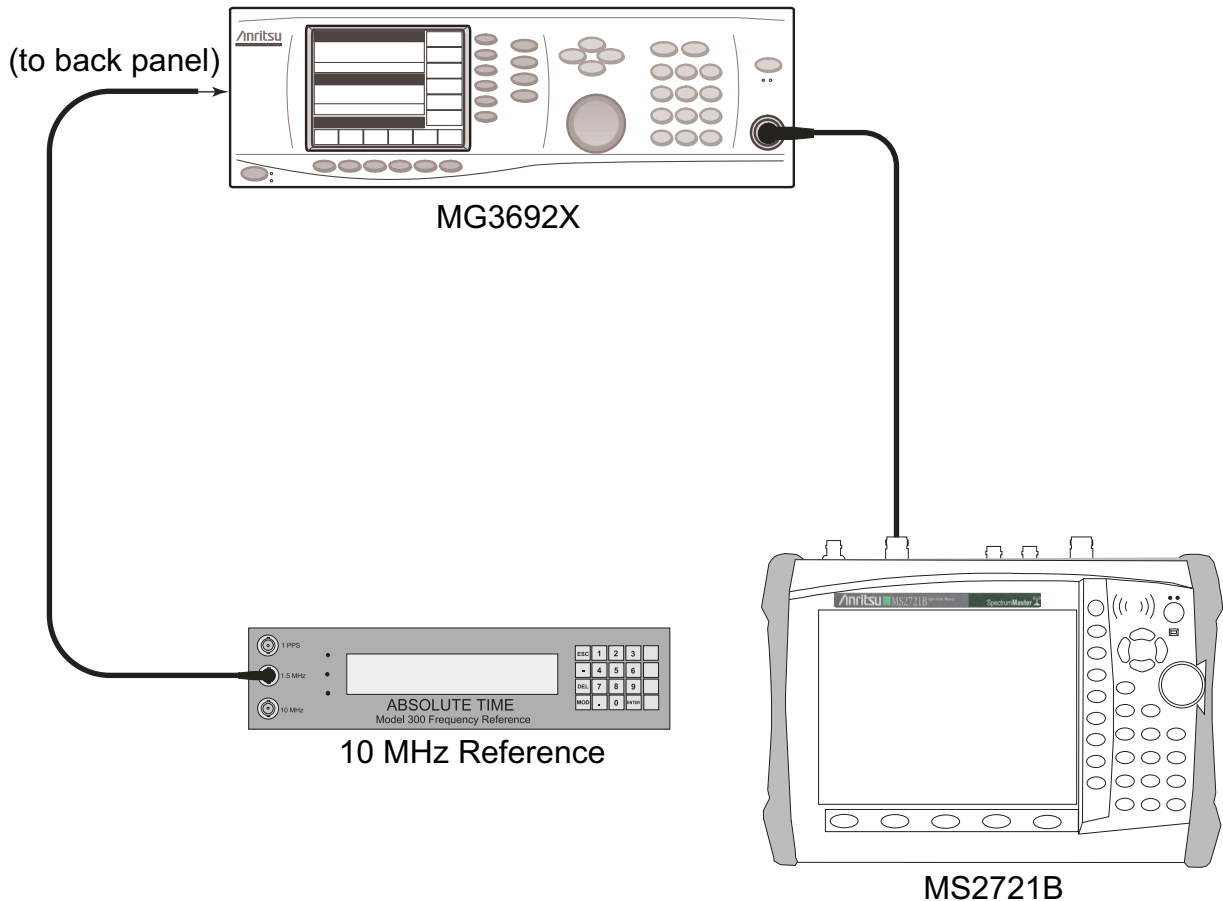

Figure 3-8. GPS Frequency Accuracy Verification Test Setup
2. Connect the output of the Synthesized Signal Generator to the Spectrum Analyzer RF In port of the MS2721B, as shown in Figure 3-8.